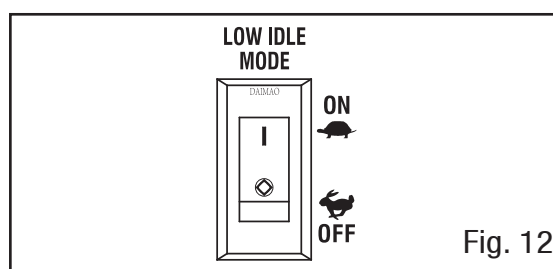

Fig. 12
1. Turn the LOW IDLE MODE switch (Fig. 12) to “OFF”.